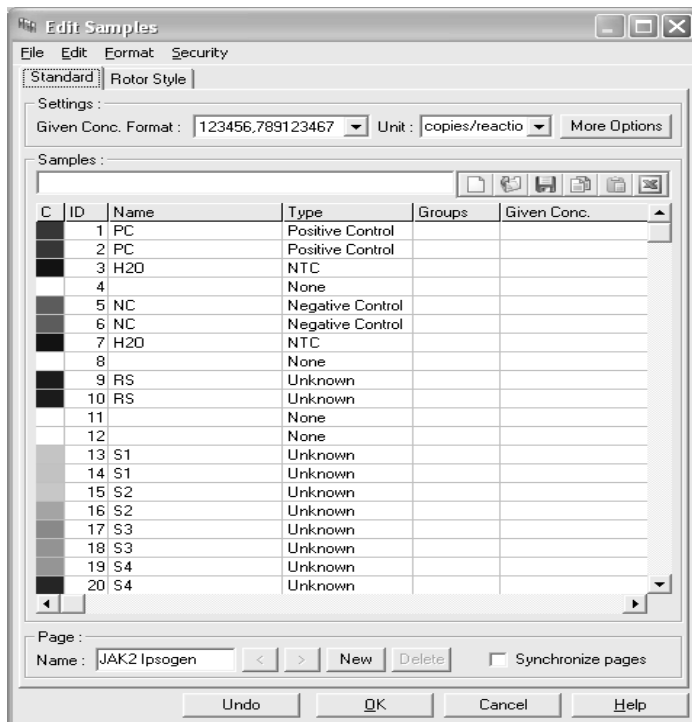

Figure 7. Rotor-Gene setup: "Edit Samples".
16. Enter the rotor setup in the Rotor-Gene software (Figure 7).